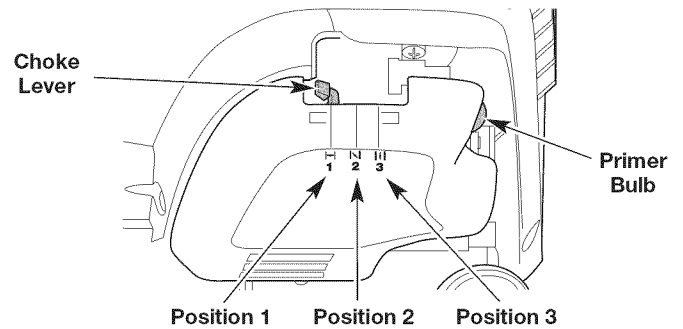

Fig. 10
3. Slowly press and release the primer bulb **10 times** (Fig. 10). If fuel cannot be seen in the primer bulb, press and release the primer bulb until fuel is visible.
4. Move the choke lever to **Position 1** (Fig. 10).
7. Continue to squeeze the throttle control. Move the choke lever to **Position 2** (Fig. 10).
10. Continue to squeeze the throttle control. Move the choke lever to **Position 3** (Fig. 10) and continue warming the engine for an additional 60 seconds. The unit may be used during this time.
**IF...** the engine hesitates, return the choke lever to **Position 2** (Fig. 10) and continue the warm-up.
8. Continue to squeeze the throttle control. Move the choke lever to **Position 2** (Fig. 10).
12. Continue to squeeze the throttle control. Move the choke lever to **Position 3** (Fig. 10) and continue warming the engine for an additional 60 seconds. The unit may be used during this time.
**IF THE ENGINE IS HOT...** Move the choke lever to **Position 2**, press the primer bulb **10 times**, squeeze the throttle control, and press and hold the electric starter or drill ON (I) button for 2-second intervals until the unit starts. Run the unit for **2-5 minutes**. The unit may be used during this time. Then move the choke lever to **Position 3**.